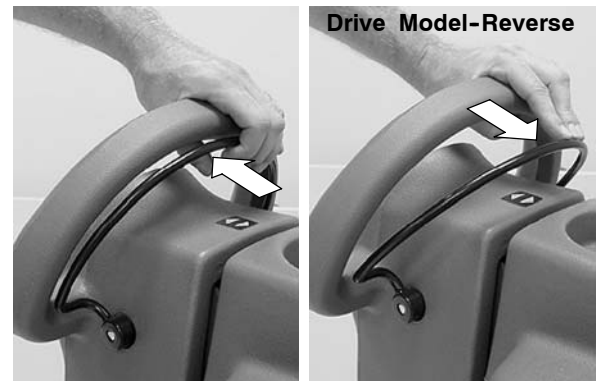

FIG. 18
6. Pull the control handle bail backwards to start scrubbing (Figure 18). The drive model will automatically propel forward. To reverse the drive model, simply push the control handle bail forward.